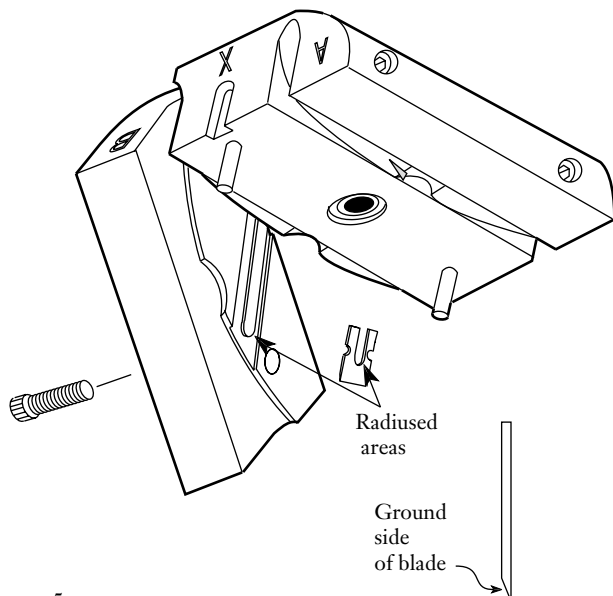

Figure 5
4.2 Starting with either tool half, use a 7/64-inch hex wrench to remove the screw closest to the first blade to be replaced; loosen but do not remove the other screw (see Figure 5).
4.3 Pivot the outer piece around the loosened screw so that the blade is exposed (Figure 5). Carefully remove the old blade and dispose of it properly.
4.4 Place the new blade into the tool with the ground side of the new blade facing the piece of the tool with the recessed area provided for the blade (see Figure 5).